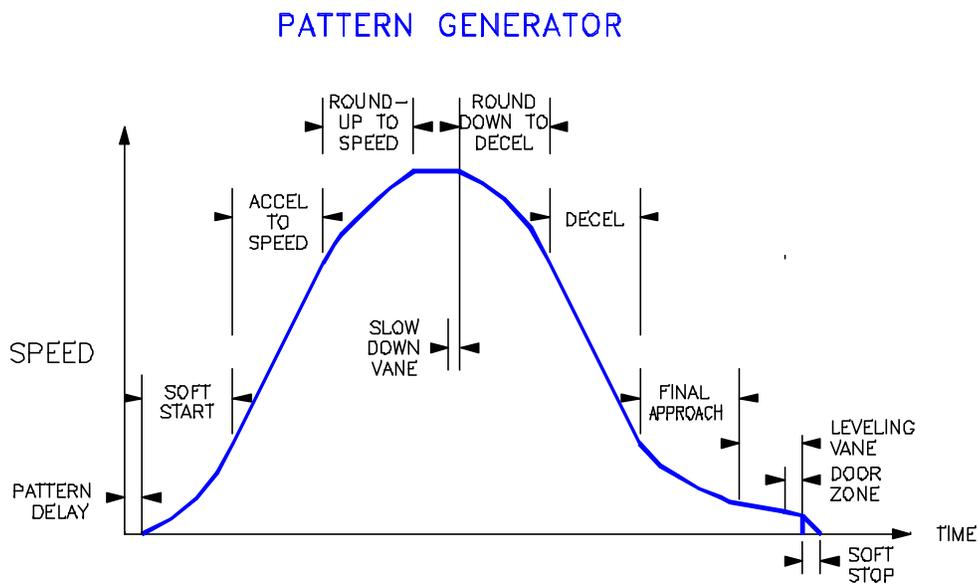

FIGURE I.6.1
The speed profile drawing, Figure I.6.1 below, has the speed pattern broken into sections that can be individually adjusted by the trim pots listed.
I.6.2. Make a series of multiple floor runs up, then down. At every run adjust, as necessary, any of the speed curve parameters depicted on figure I.6.1. If car vibrates, check tach mounting and wiring, if correct, reduce Speed Gain adjustments, parameters 03.09 and / or 03.10 (refer to page 53 in the drive manual). As soon as car is able to run at top speed, perform step I.6.3 below, then repeat this step as necessary.